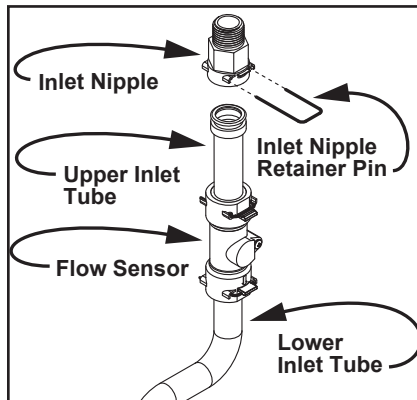

Figure 39 - Disassembling and removing the inlet nipple.
- 1** Using a flat head screwdriver and/or needle nose pliers, locate and remove the retainer pin securing the inlet nipple to the upper inlet tube. See Figure 39.
- 3** Reinstall the nipple inlet plate and position/seat the assembly into place. See Figure 39.